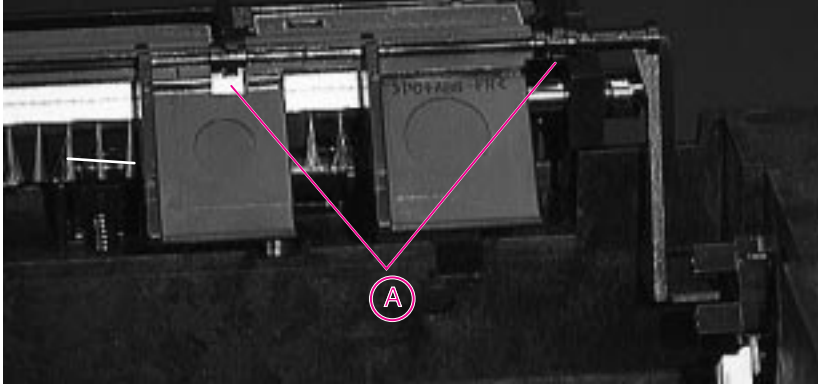

Figure 6-51 Detail of Bin Full Sensor
- 2 The Face Down Bin Full Sensor is located on the top of the Upper Delivery Assembly. Release the two clips (A) (Figure 6-51), and slide the Sensor to the right to remove it.